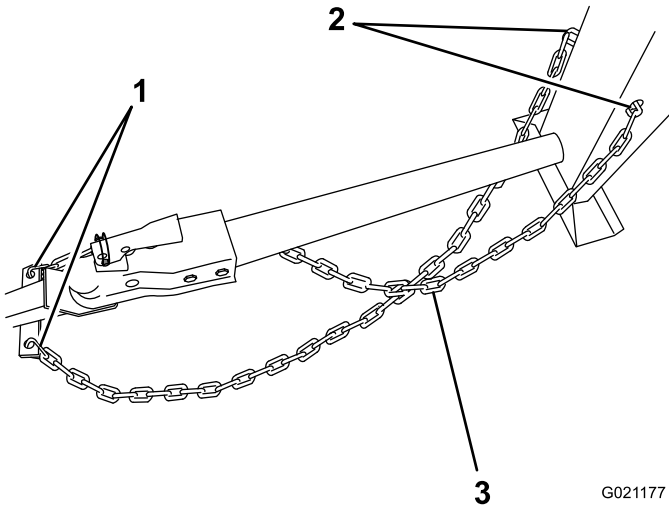

Figure 20
1. Pull the safety chain through the slots in the keyholes located in the front post of the machine, so that there is just enough slack on each side for turning around corners when towing the machine (Figure 20).